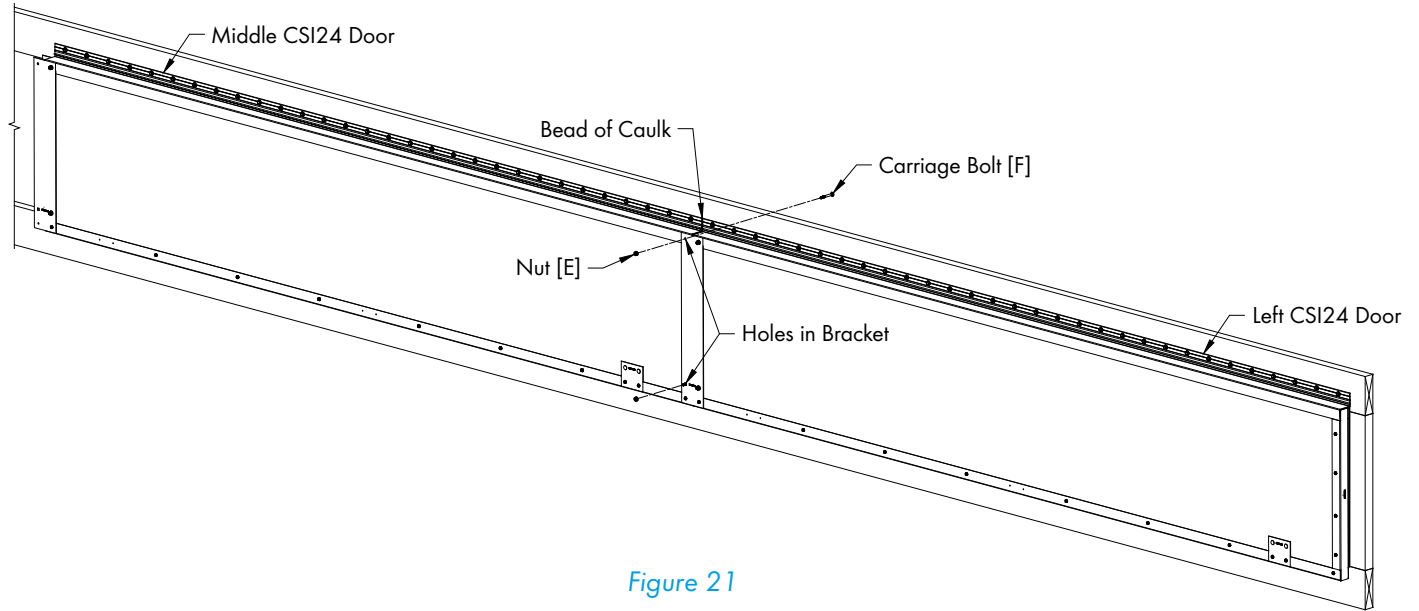

Figure 21
Secure Left Door and Middle Door together with (2) Carriage Bolts [F] and Nuts [E] through (2) holes in Inside and Outside Door Supports. See Figure 21. Apply a bead of caulk to the joint between doors at the hinge and the top of the doors.